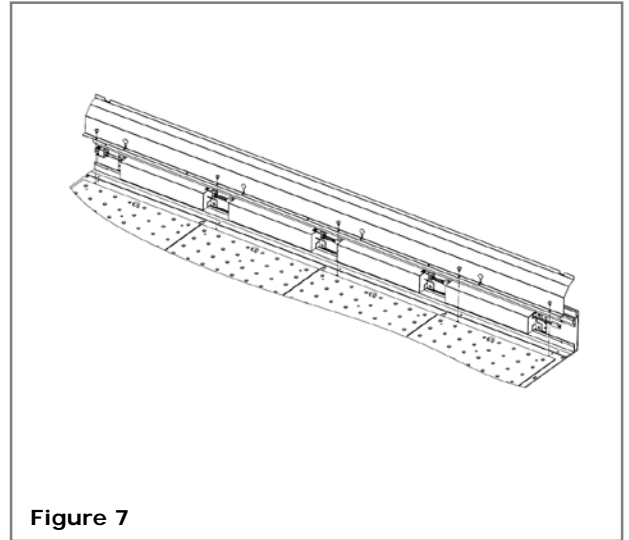

Figure 7
1. Remove the wire covers to access the line voltage wire harnesses. **See Figure 7.**